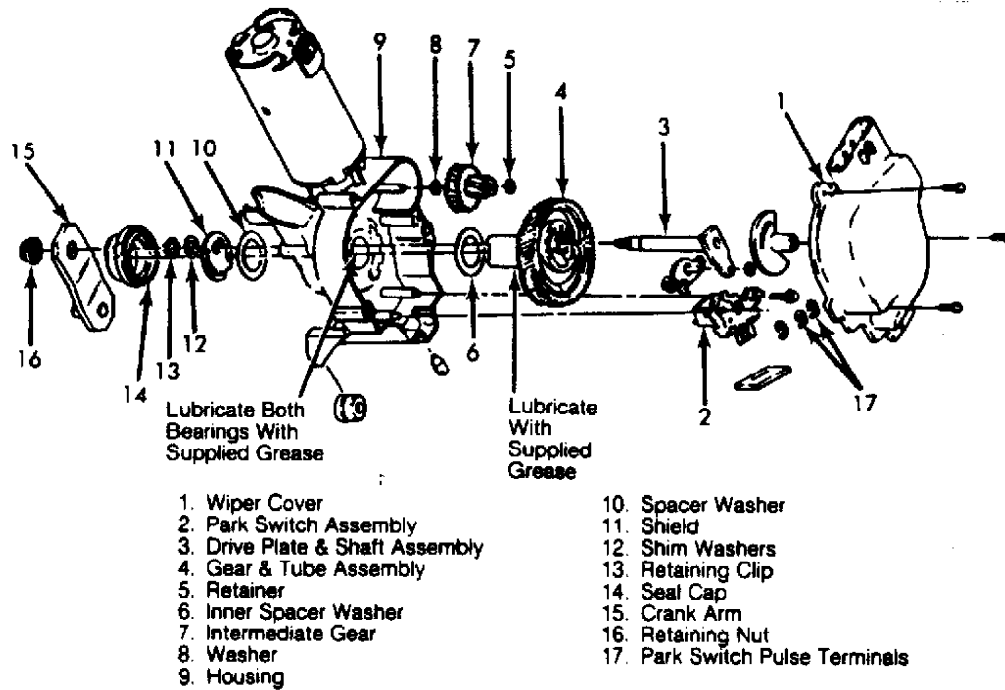

Fig. 8: Exploded View of Wiper Motor Assembly
1) With wiper motor removed from vehicle, remove crank arm retaining nut. Disconnect crank arm. Remove rubber seal cap and thrust collar or retaining ring. See Figs. 8 and 9.